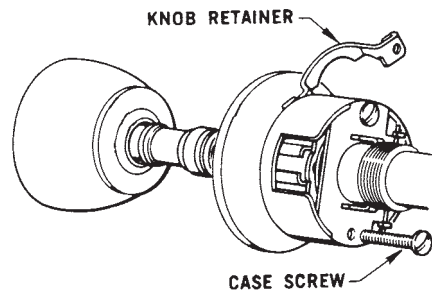

Figure 13.13 Changing lockset hand.
2. Slightly loosen *one* case screw and back off the other (Fig. 13.13).